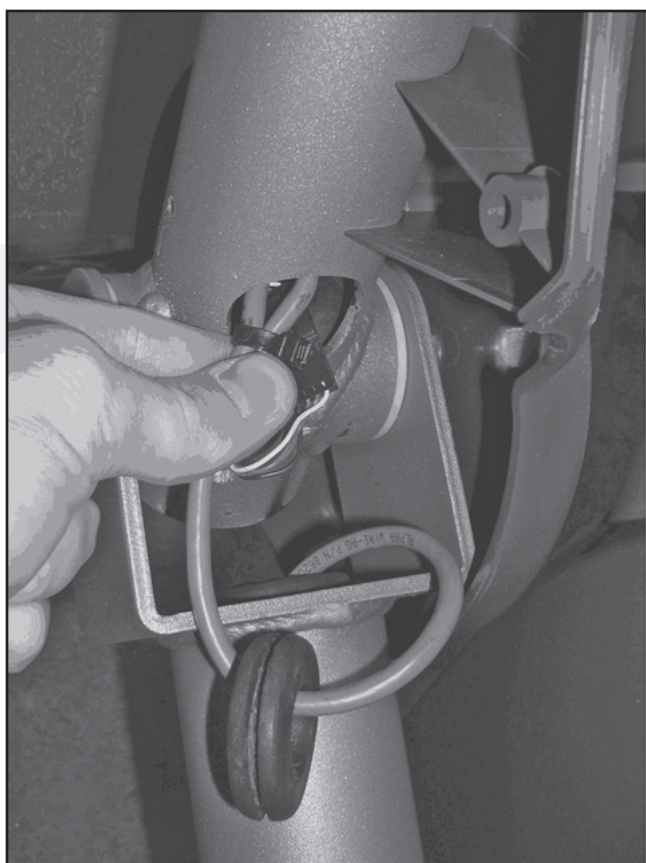

Figure 5
20. Carefully insert the connectors and zip tied loop into the swing arm tube's opening (see Figure 5).